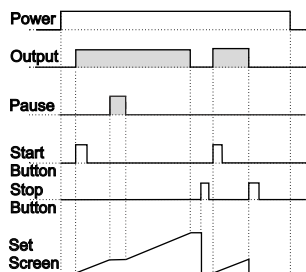

Figure 2.3
1.4.1 If Upcount **Incr**=0 and **OutF** is **On** the control diagram is shown in Figure 2.3